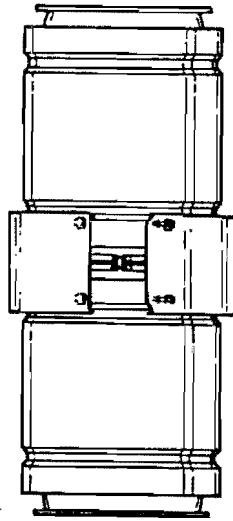

FIGURE 8 Basic Assembly Step 5: Fit Closure Band over gap between adjoining outer pipe walls.
5. Install the needed Closure Bands. A 4-1/2" wide Closure Band is installed to cover the gap between adjoining center wall in Model VSI-III triple wall pipe. Wrap the Closure Band around the pipe so it covers the gap. Make sure the small flanges on both ends of the Closure Band fit inside the beads or grooves in the pipe wall (Figure 8).